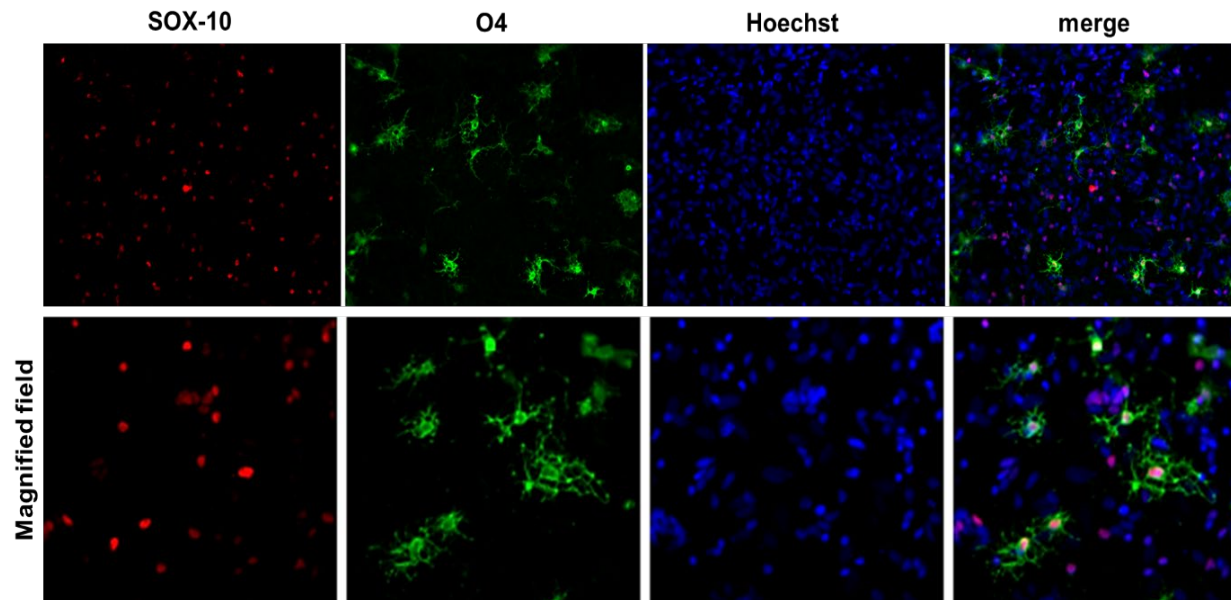

Figure 4. SOX10/O4-positive Oligodendrocytes at the end of the protocol
- Oligodendrocytes should have a typical multi-branched shape and should be positive to the nuclear marker SOX10 and the surface antigen O4 (see **Figure 4**).